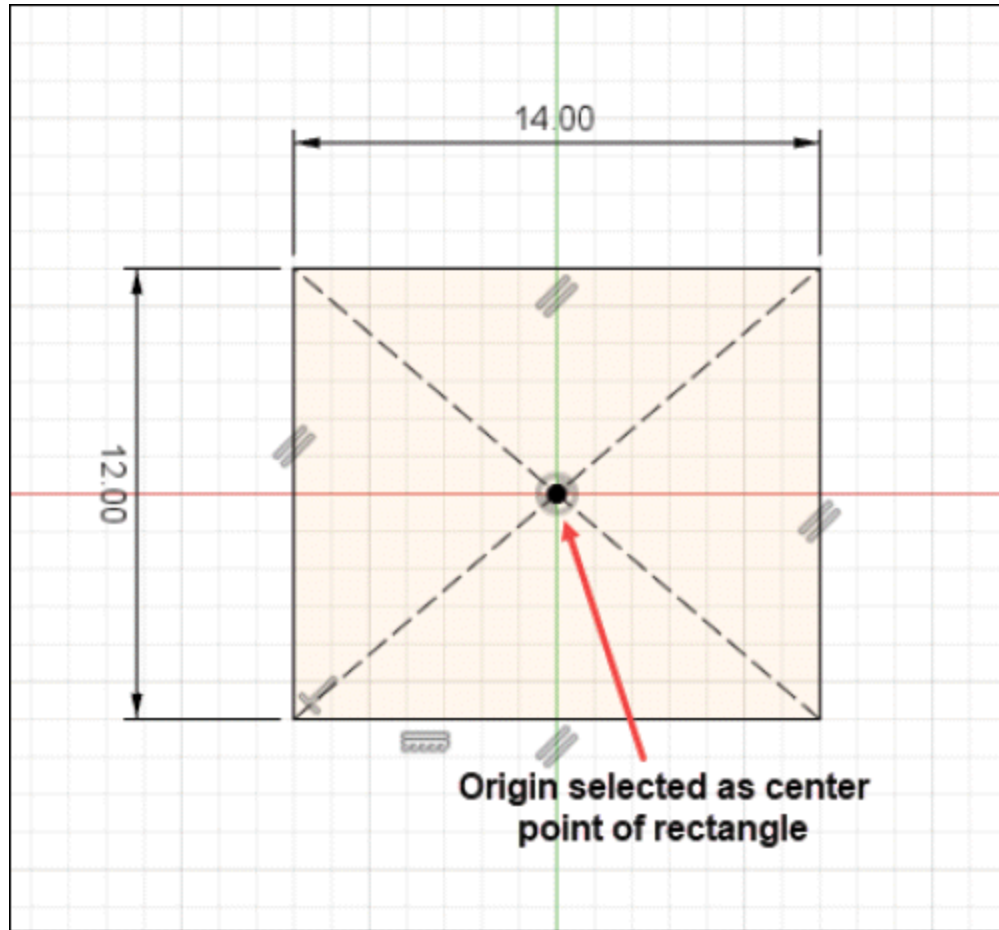

Figure-4. Rectangle created for 3D sketch
- Select the **XY** plane as sketching plane and create a center point rectangle as shown in Figure-4.